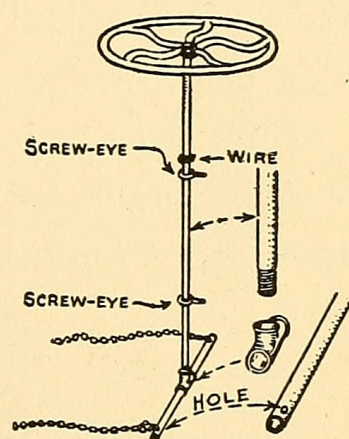

FIG. 473. — Details of a Sewing-machine Wheel and Gas-pipe Steering wheel.
**The Steering-wheel** should be made out of a sewing-machine wheel and piece of gas-pipe as shown in Fig. 473. Get a gas-fitter to prepare a piece of gas-pipe with
a T connection at one end, and a short piece of pipe run through the T crosswise, as shown in the illustration, and have him drill a hole through the vertical piece of pipe near the upper end, and two holes through the cross-piece — one near each end. Screw two screw-eyes into the inside face of the dashboard, then slip the steering shaft through a hole bored through the bottom of the wagon-bed, and through the screw-eyes. Fasten the wheel to the end of the pipe by means of a metal pin driven through the hole in the pipe and wheel hub, wrap some wire around the pipe on a line with the top of the dashboard, and solder it in place, to keep the pipe from slipping down (Fig. 473), and run rope or chain from the ends of the lower cross-piece to the axle ends.